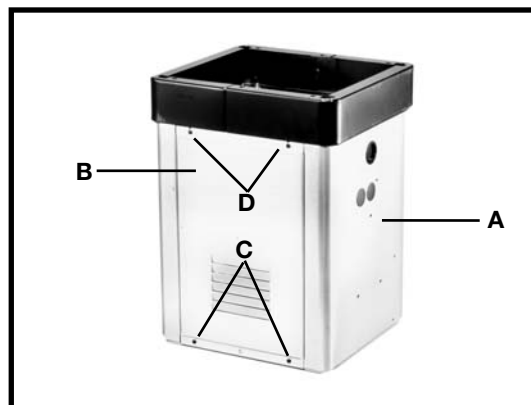

Fig. 4
1. Remove the stand (A) Fig. 4 from the shipping container.
2. Take the panel (B) Fig. 4 off of the stand (A) by removing two screws (C) and loosening the two other screws (D). Remove the panel on the opposite side of the stand in the same way.